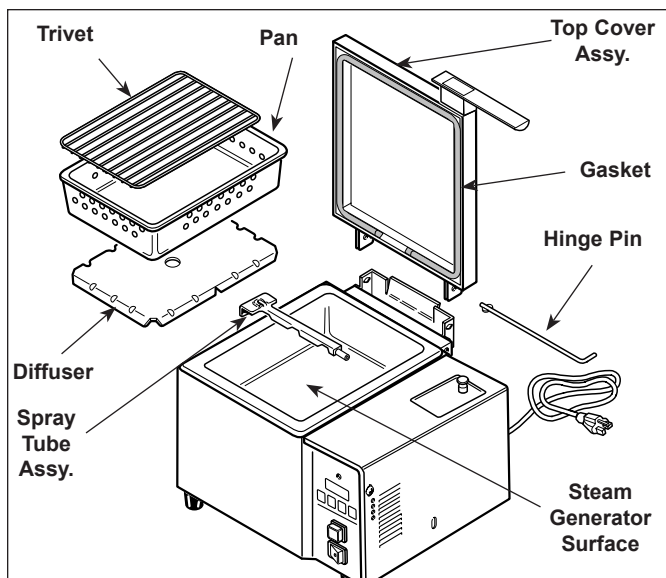

Figure 10. Deluxe Food Warmer Components (DFW-250 Shown)
3. Remove the Trivet and Pan (Figure 10).
5. Wipe down the Top Cover, Gasket, and the entire exterior of the unit (Figure 10) with a clean, hot, damp cloth (not dripping wet) and wipe dry.
5. Use a scraper or spatula to scrape and remove the excessive calcium/mineral buildup from the Generator surface (Figure 10). Remove any loose buildup and thoroughly wipe the Generator with a damp cloth and reassemble the unit.